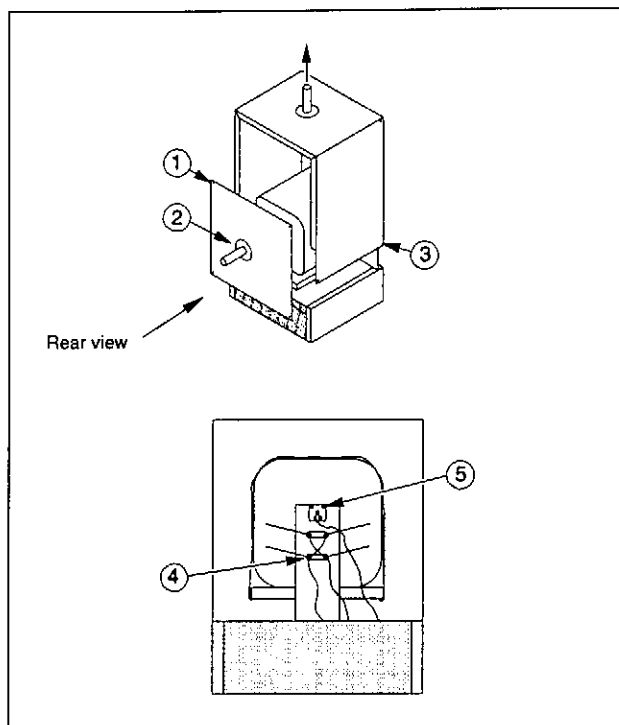

Figure 10. Heating Unit Replacement
To replace the heating unit, complete the following steps (refer to Figure 10):
1. Remove any atmosphere piping connected to the atmosphere pipe (item #2 in Figure 10).
3. Remove the screws from corners of the rear panel (#1 in Figure 10).
6. Remove the six corner screws from the shell (#3 in Figure 10).
8. Note the terminal connections of the element wires and label them for reattachment. Loosen the terminal nuts and remove the element wires (#4 in Figure 10).
9. Remove the thermocouple head screws and slide the thermocouple out (#5 in Figure 10).